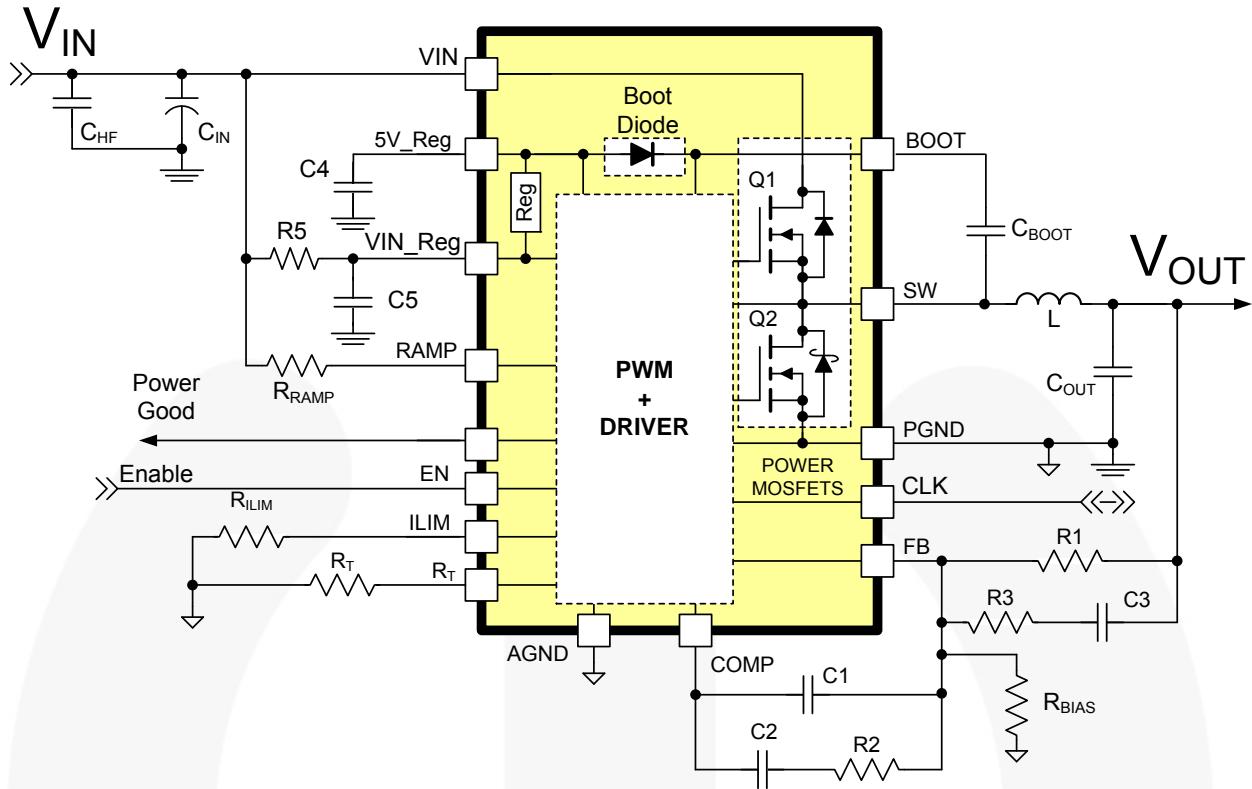

Figure 1. Typical Application, Master,  $V_{IN}=6.5\text{ V to }24\text{ V}$
Recommended operating conditions, using the circuit in Figure 1, with  $V_{IN}$ ,  $V_{IN\_Reg}=12$  V, unless otherwise noted.
**Electrical Characteristics** (Continued)Recommended operating conditions using the circuit in Figure 1 with  $V_{IN}$ ,  $V_{IN\_Reg}=12$  V, unless otherwise noted.